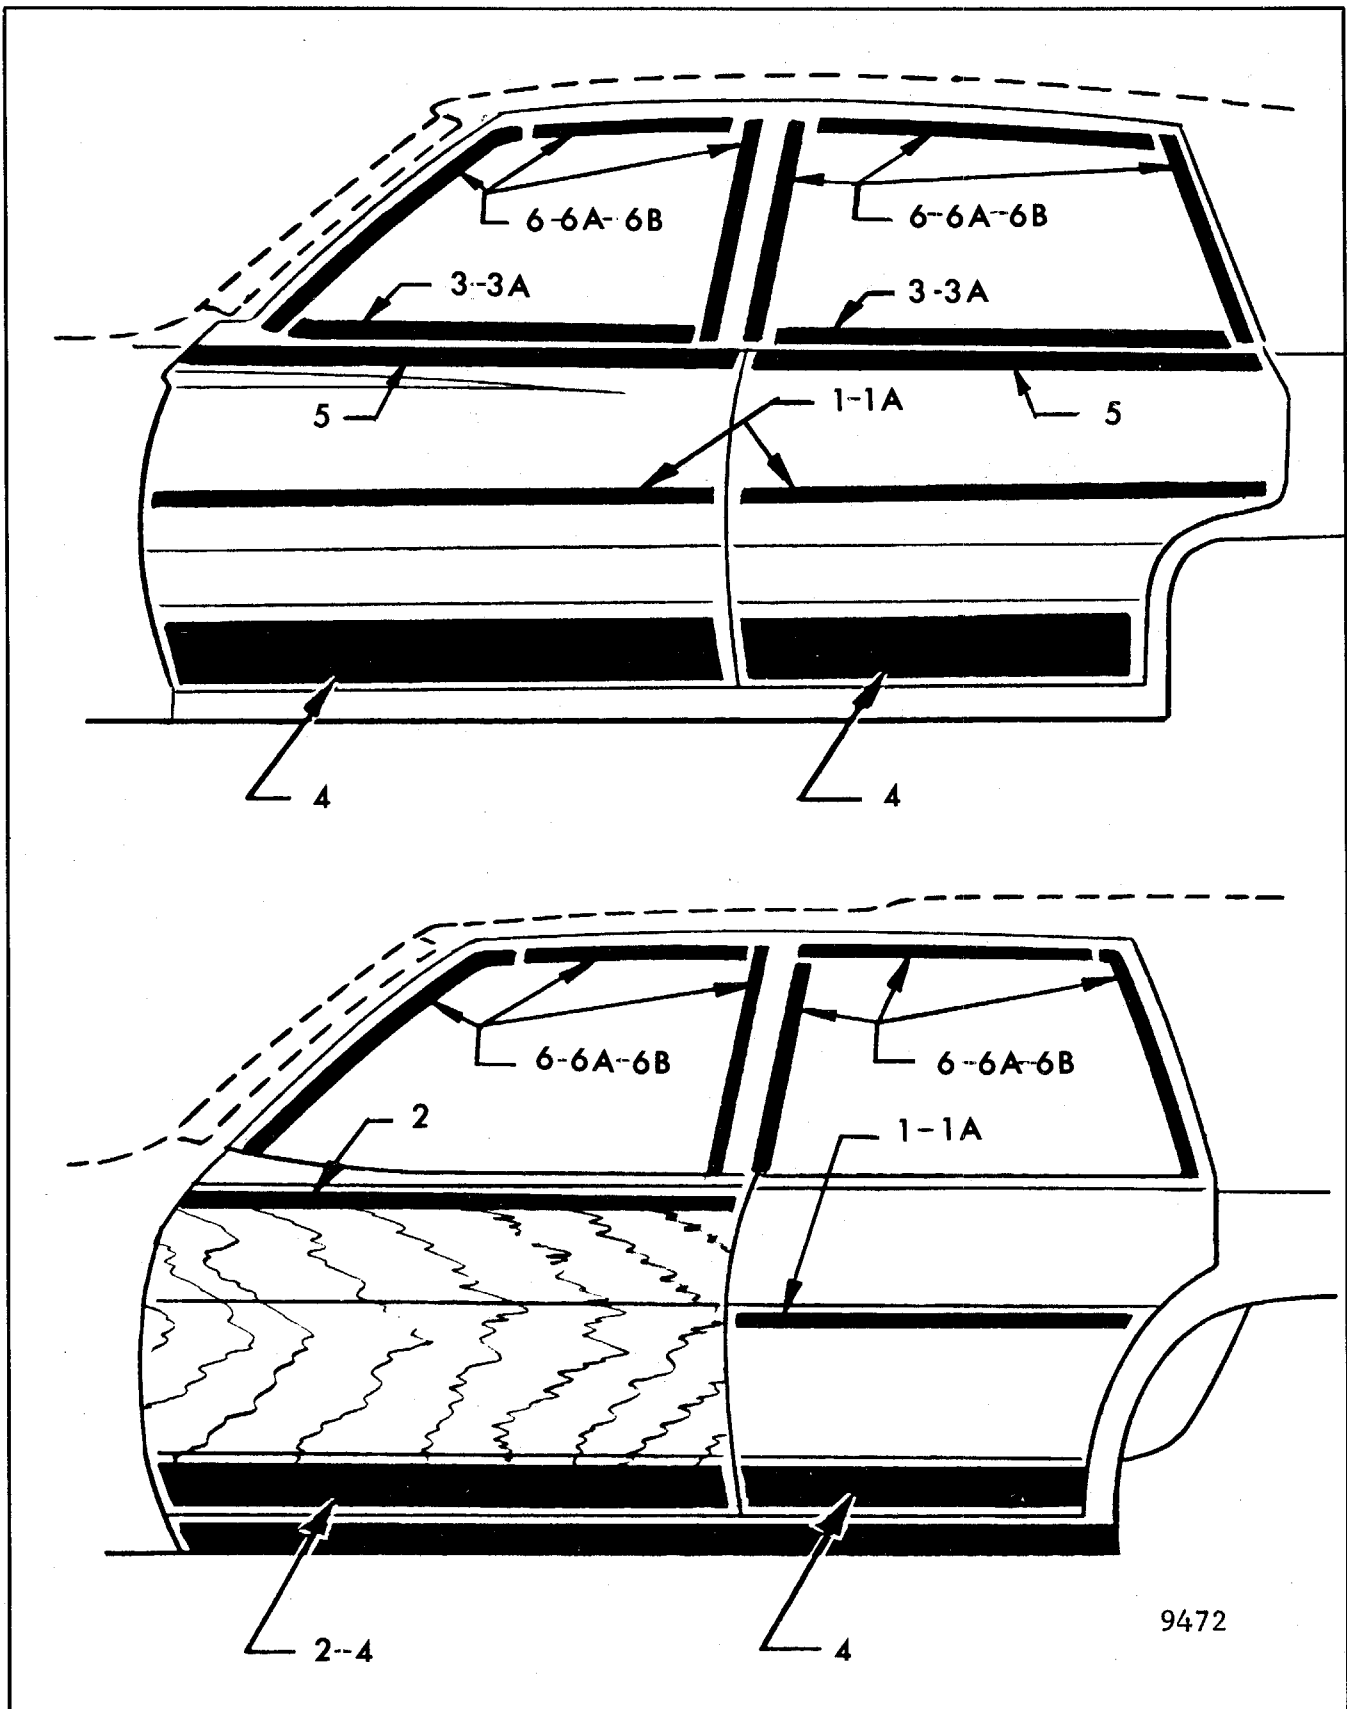

Fig. 5-29 - Typical Door Exterior Moldings
Figure 5-29 identifies all typical door exterior moldings by number. Molding installation chart (Figure 5-31) identifies molding description and specific attachment.
1. Using typical exterior molding illustration (Fig. 5-29), locate number of specific molding(s).